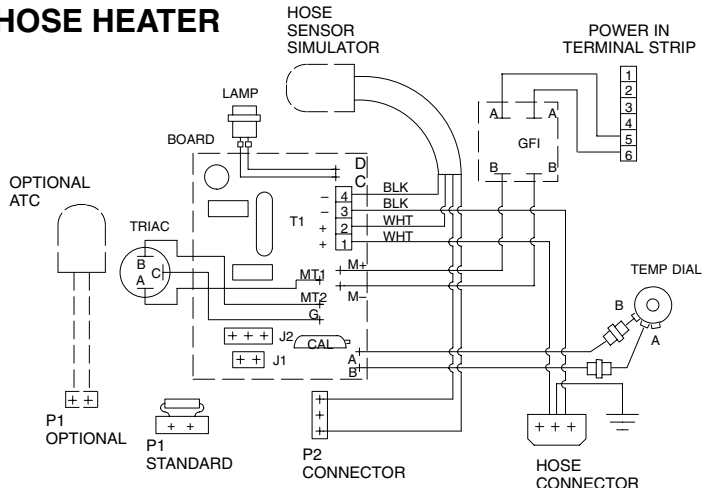

Fig. 21
5. Disconnect the heater element wires at terminal block T1. See Fig. 21.
6. Unplug the power wires (RES wire no. 11 and 12; ISO wire no. 21 and 22) from the circuit breaker (210 or 319). See Fig. 21.
5. Reinstall the heater element wires into terminal block T1, in the positions indicated in Fig. 21.
Heater No. 235840 is shown in Fig. 21. The wiring for Heater No. 235839 is identical except the second set of elements (wires 9, 10, 19, 20) are not used.